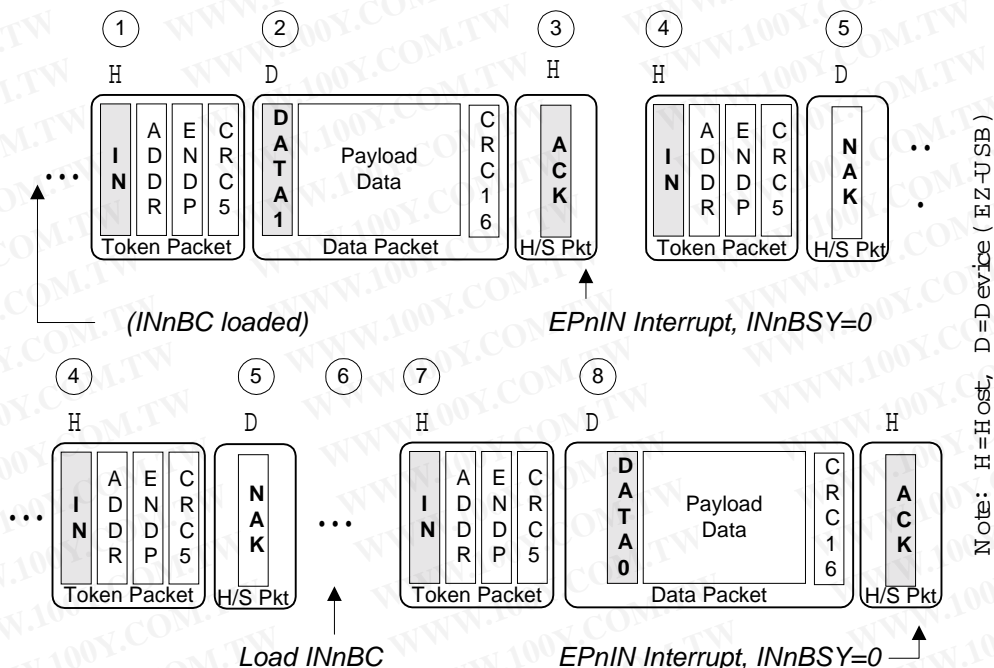

Figure 6-3. Anatomy of a Bulk IN Transfer
In the bulk IN transfer illustrated in Figure 6-3, the 8051 has previously loaded an endpoint buffer with a data packet, and then loaded the endpoint's byte count register with the number of bytes in the packet to arm the next IN transfer. This sets the endpoint's BUSY Bit. The host issues an IN token (1), to which the USB core responds by transmitting the data in the IN endpoint buffer (2). When the host issues an ACK (3), indicating that the data has been received error-free, the USB core clears the endpoint's BUSY Bit and sets its interrupt request bit. This notifies the 8051 that the endpoint buffer is empty. If this is a multi-packet transfer, the host then issues another IN token to get the next packet.